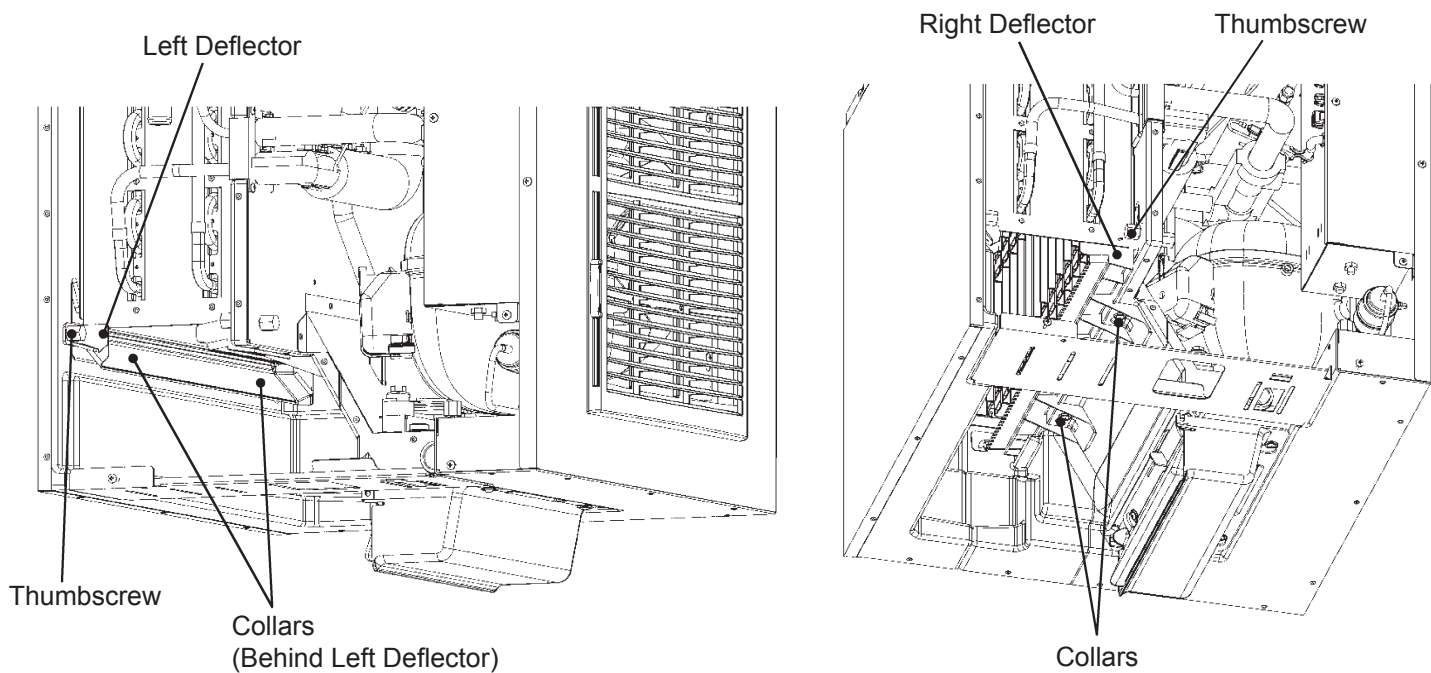

Fig. 7
- 10) Make sure the right and left deflectors are in their correct positions with the slotted holes engaged on the collars. Make sure the right and left deflectors are secured with the thumbscrews. See Fig. 7.